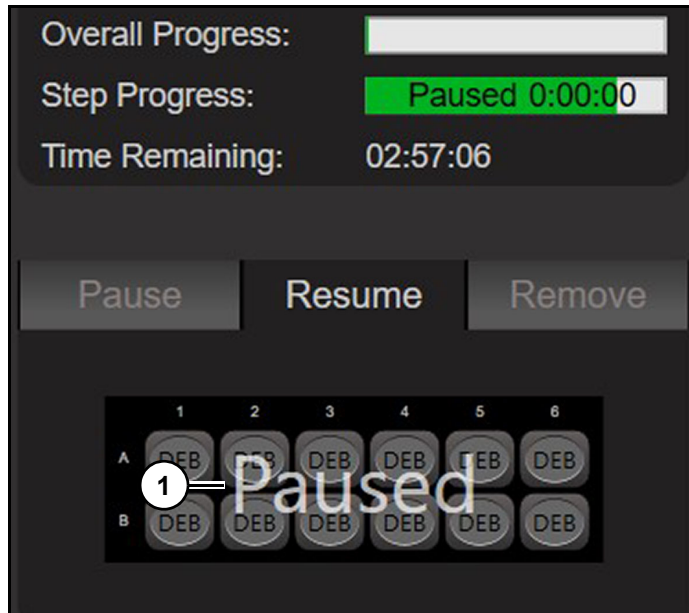

Figure 100
When pause point is reached, instrument will pause, and status will be highlighted yellow and plate graphic will show "Paused" (1). (Figure 100)